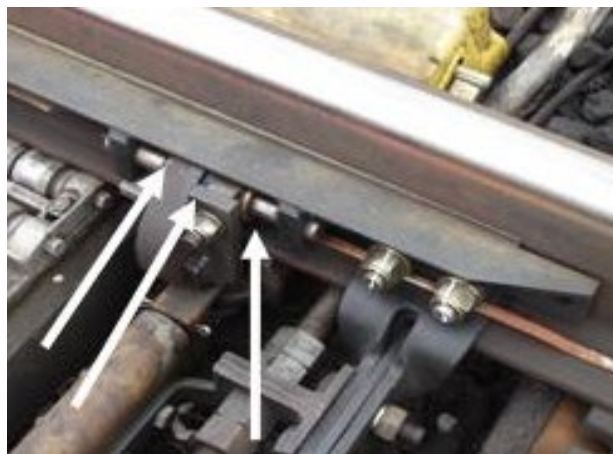

Figure 10 – Mk 2 Pivot Pin Lubrications Points
18.2 Lubricate the Lock Arm Pivot-Pin and Lock Arm Bush as shown in Figure 10.
- The can shall be shaken well before each use. Spray the areas arrowed in Figure 10.